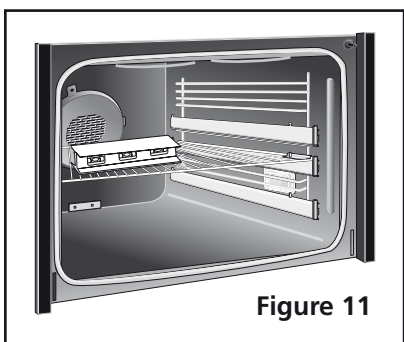

Figure 11
1. Install an oven rack in the center of the lower oven (see Figure 11).